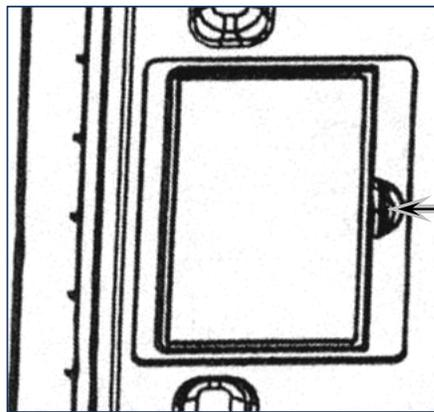

Figure No. 21
2. To install or replace the batteries, first remove the battery cover by pushing in on the tab and lifting it up. Refer to Figure No. 21.